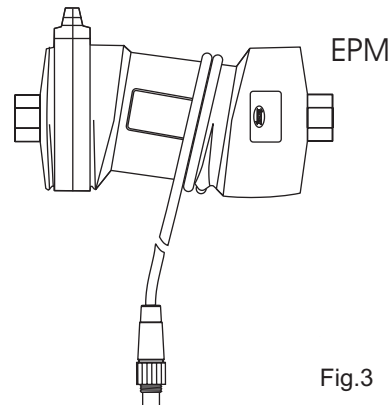

Fig.3
(See Fig.3 opposite)
1.6.7 Voltage Output A voltage of +10V or +24V may be sourced from the PC6-IDOS by connecting to the 2 mm sockets. A typical application for this voltage output would be to power a pressure transmitter. (see Fig. 3. page 10)